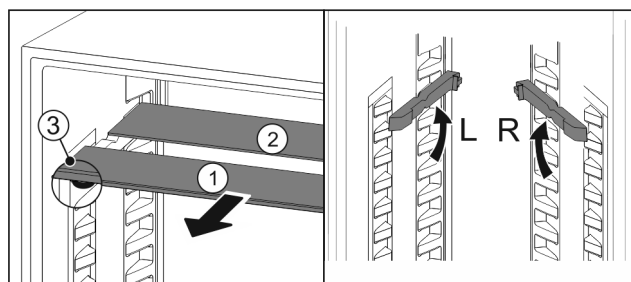

Fig. 88
- ▶ Pull the glass panels out Fig. 88 (1) from the front, one at a time.
- ▷ The glass panel Fig. 88 (1) with the trim strip is at the front.
- ▷ The stops Fig. 88 (3) point downward.